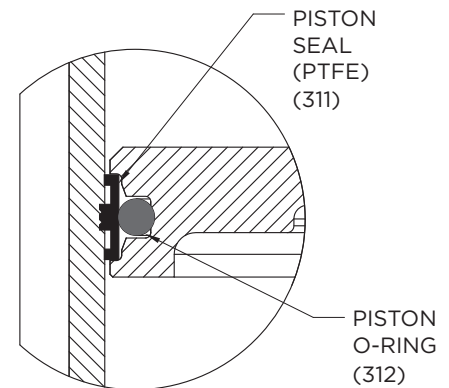

Figure 2: Piston Seal and O-ring
3. Remove the nylock nuts (305) and washers (306) from the tie-rods (304).
4. Remove the cylinder cap (307) and remove the O-ring seal (308) from the cylinder cap (307).
5. Remove the cylinder tube (313), piston seal (311) and O-ring (312). Clean the parts and the grooves in the piston (310). See **Figure 2**.